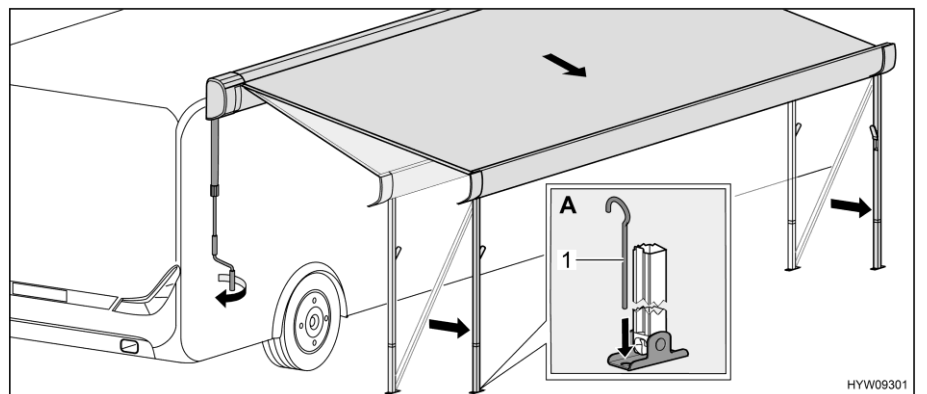

Fig. 51 Bringing awning into end position
- Fix the support legs to the floor with tent pegs (Fig. 51,1) (Fig. 51,A).